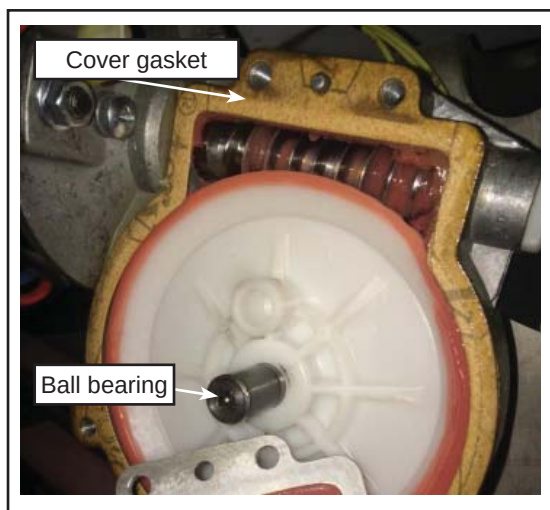

Figure 4 - Interior of the Mechanism Casing
- 1.6. Gently pull the cover straight out, leaving the gasket in place. See Figure 4.
- 1.7. Check if the ball bearing remains in place in the seat at the end of the shaft. See Figure 4.
- 1.12. Verify the gasket is in good condition and in place. See Figure 4.